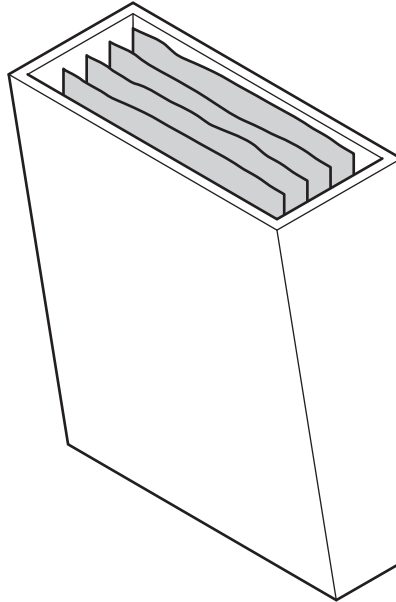

Fig. 7.1
- 7 Fig. 7.1 shows a design for a wall-mounted leaflet holder.
Add sketches and notes to Fig. 7.1 to show a modification to the design that would make it easier to access the leaflets. [2]